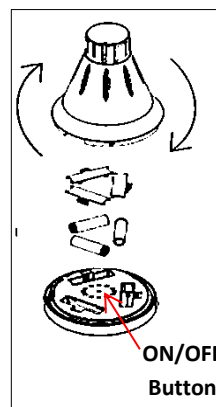

FIGURE 1
2. To locate the "ON/OFF" switch, twist the solar panel head off the fitting and flip upside down (See in **FIGURE 1**)